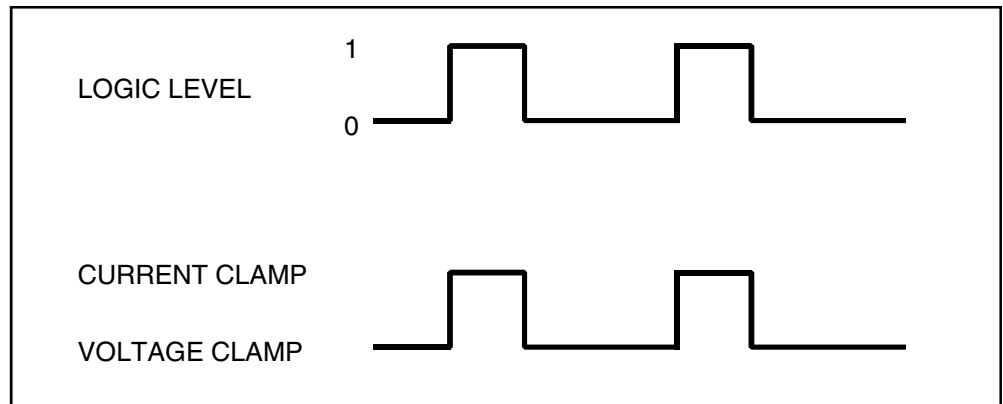

Figure 4
The remote logic I/V input will change the clamp from voltage clamp to current clamp when a positive logic level (1) is presented. When a low logic level (0) is presented, as would occur with no connection at all or if the input were grounded, the clamp remains in voltage clamp. Refer to Figure 4.